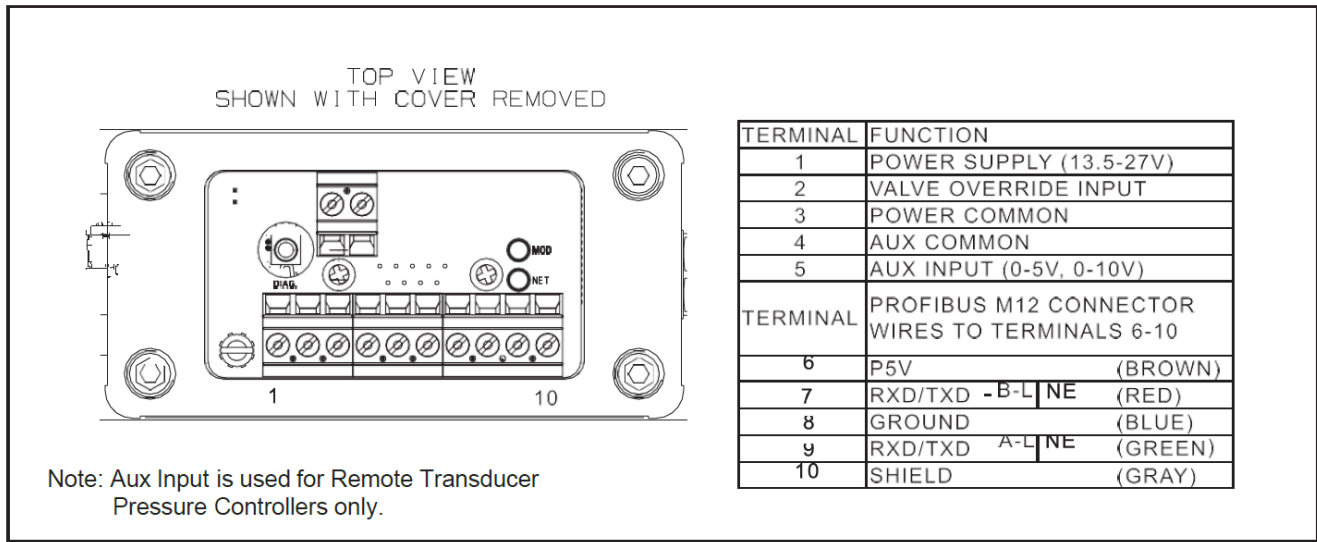

Figure 1-5 SLAMf Series Profibus Terminal Connections
The Brooks SLAMf is now equipped to support the Profibus communication protocol. Profibus is a fieldbus-based automation standard of Profibus and Profinet International (PI). Via a single bus cable, Profibus links controller or control systems with decentralized field devices (sensors and actuators) on the field level and also enables consistent data exchange with higher ranking communication systems. Profibus digital signal connects externally through an M12 connector (Figure 1-5), power via PG11/Conduit (also VOR Analog Signal).
For external connection see Profibus connections on Figure 1-5.